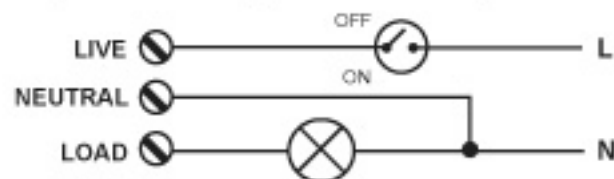

Fig. 3
- a. For automatic operation with manual off control, please refer to Fig. 3 for correct wiring.